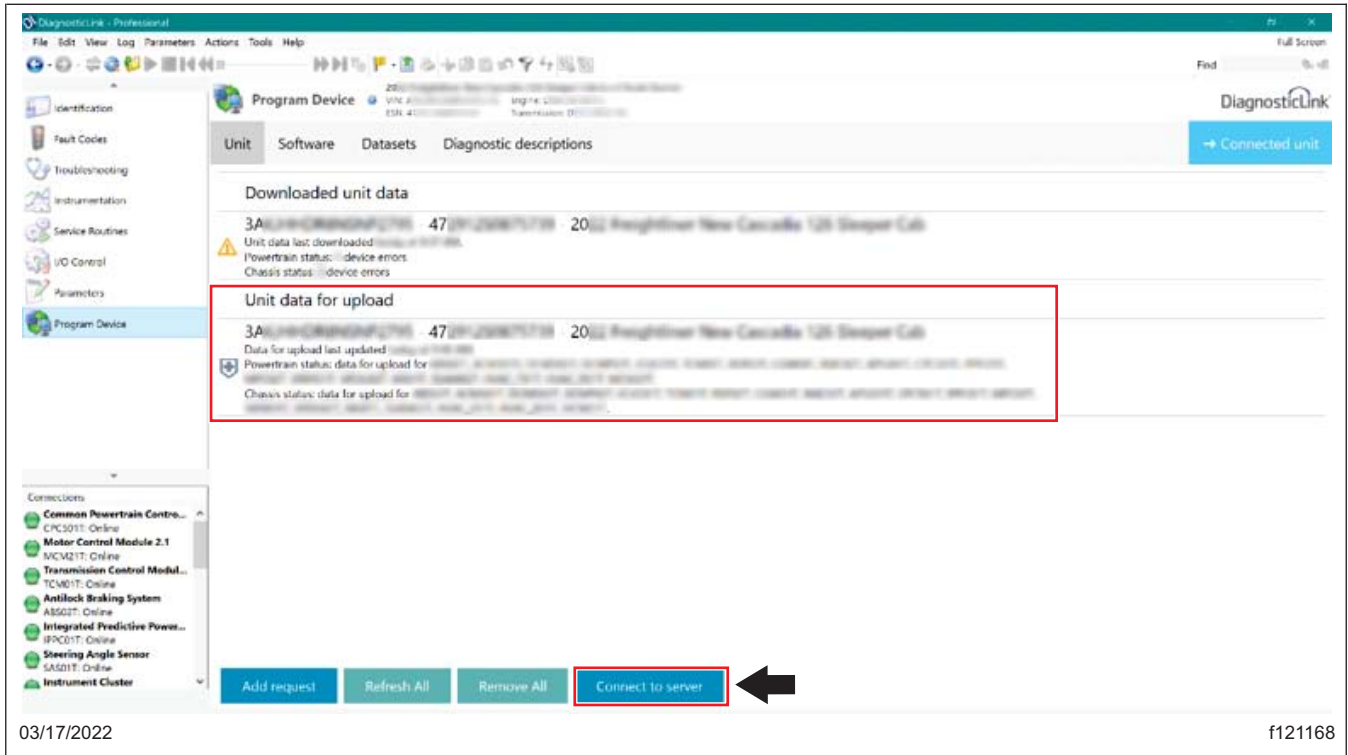

Fig. 6, Uploading the New Parameters
- The information corresponding to the VIN should appear under 'Unit data for upload.' Select 'Connect to server' to upload the new parameters. See Fig. 6.